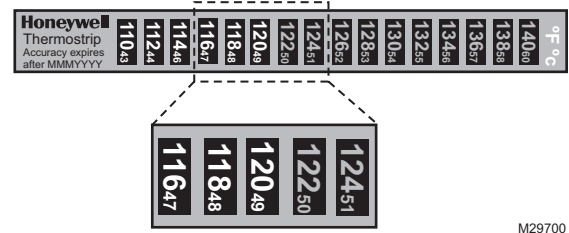

Fig. 9. Thermostrip.
mstrip reading (see Fig. 9). Ensure the hand wheel snaps back to a locked position once desired set point is reached.
2. **To Decrease mixed water supply temperature:** Push in and rotate the hand wheel clockwise until the desired set point is reached as indicated on the thermostrip reading (see Fig. 9). Ensure the hand wheel snaps back to a locked position once desired set point is reached.